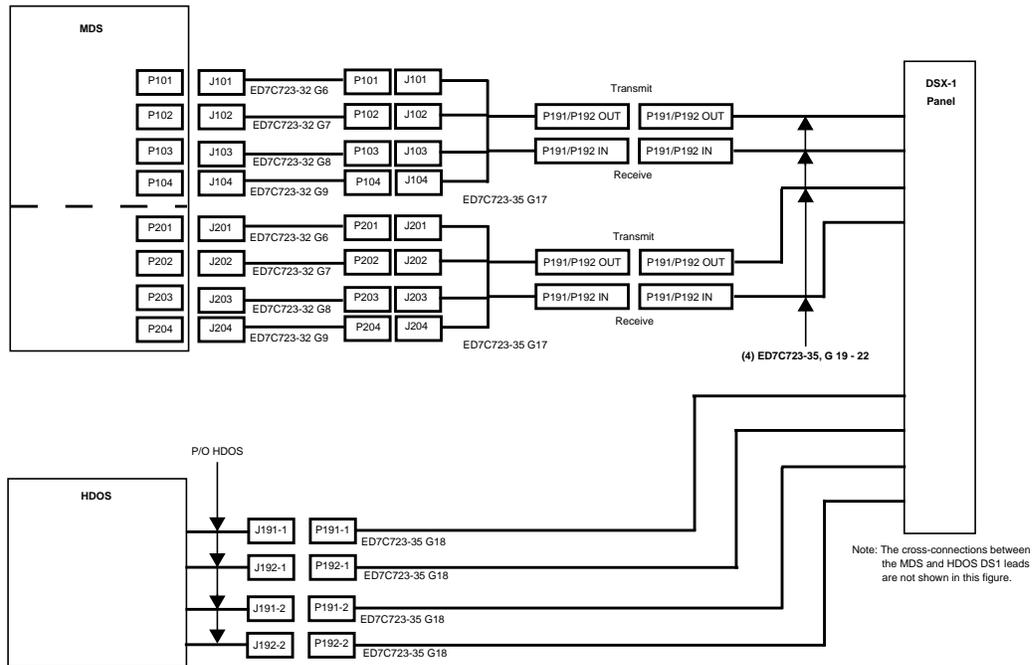

Figure 3-50B. DSX-1 Panel Cabling
Step 6: Terminate the pairs at the DSX and label the leads in accordance with Figure 3-50B and Table 3-10().